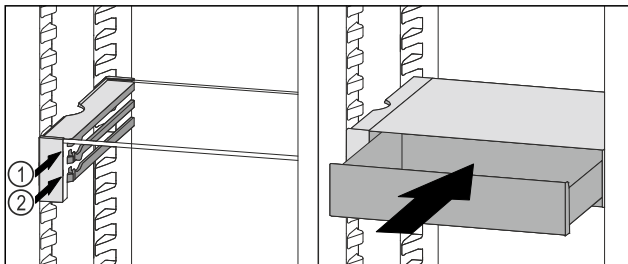

Fig. 158
- ▶ Place the VarioSafe drawer behind the stoppers on desired rib Fig. 158 (1) or Fig. 158 (2).